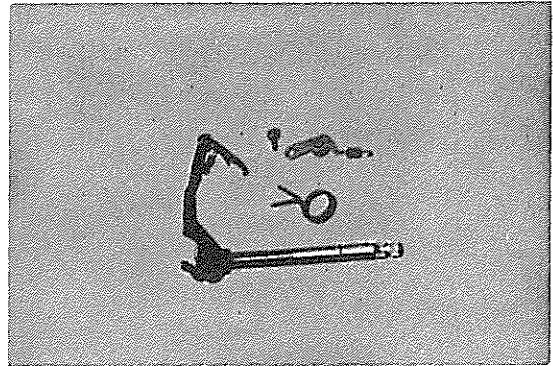

Fig. 3-12-5
**B. Checking the gear shift parts (Fig. 3-12-5)**